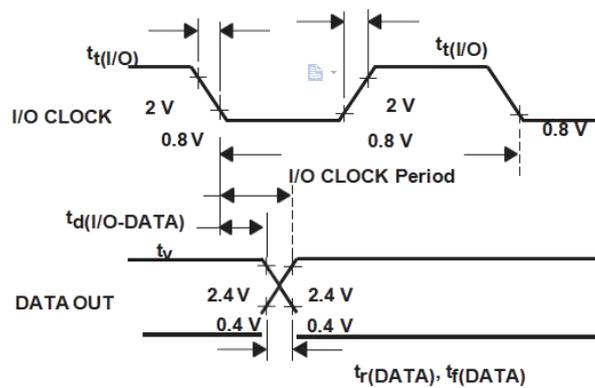

Figure 6. I/O CLOCK and DATA OUT Voltage Waveforms
6. I/O CLOCK period =  $1/(\text{I/O CLOCK frequency})$  (see Figure 6)